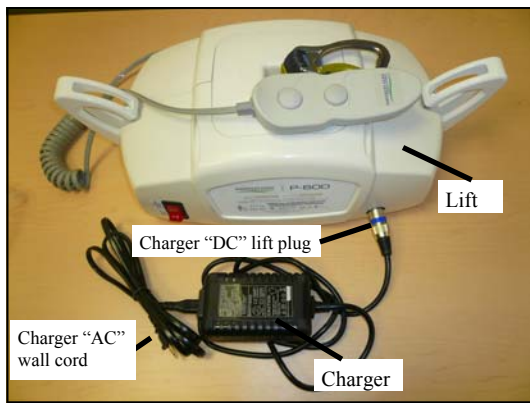

Figure 12A - P-600 lift and charger set on a secure table top or counter for charging.
**Step 1)** Familiarize yourself with the basic components of the charging system. Refer to figures 12A and 12B.